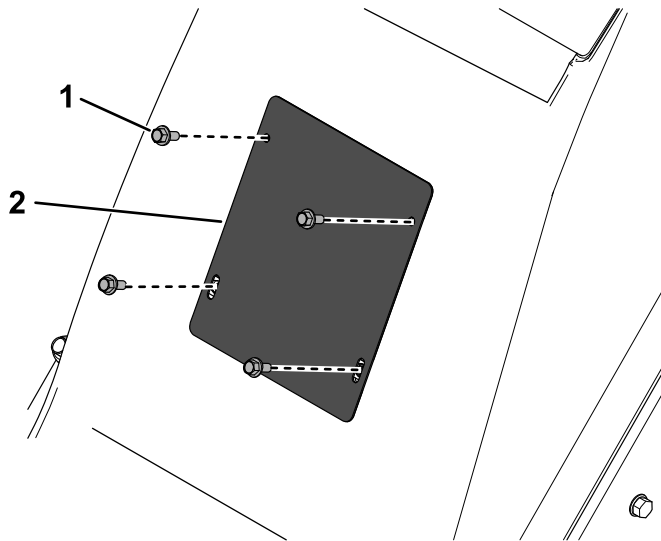

Figure 28
3. Remove the 4 bolts securing the front cover and remove the cover (Figure 28).